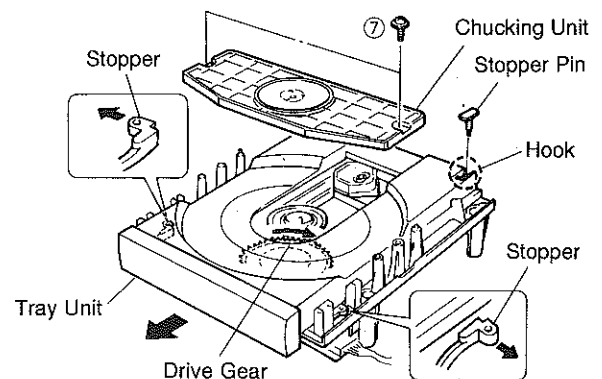

Fig. 3
- a. Remove 2 screws (⑦) and then remove the Chucking Unit in Fig. 3.
- b. Remove 1 hook and then remove the Stopper Pin in Fig. 3.
- c. Rotate the Drive Gear and then open the Tray Unit in Fig. 3.
- d. Detach the Stoppers on both sides and then pull out the Tray in Fig. 3.